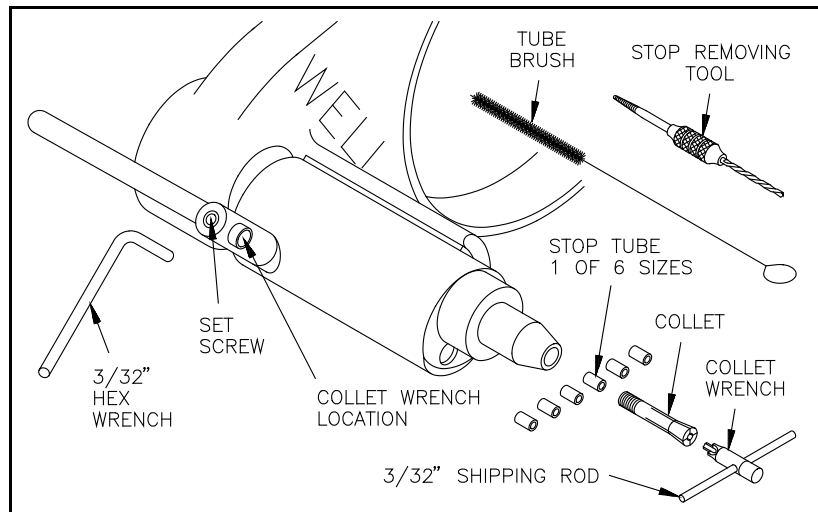

Figure 6.
- 6.2.2 Use a 3/32" hex wrench to loosen the set screw that holds the handle and remove the collet wrench. See Figure 6.
- 6.2.6 To remove the small brass stop tube behind the collet, first clean out any packed dirt with the drill end of the stop removing tool provided in the accessory kit (see figure 6.) or use a #41 drill. Remove the stop tube with the threaded end of the stop removing tool or use a size #1 screw extractor (Easyout).